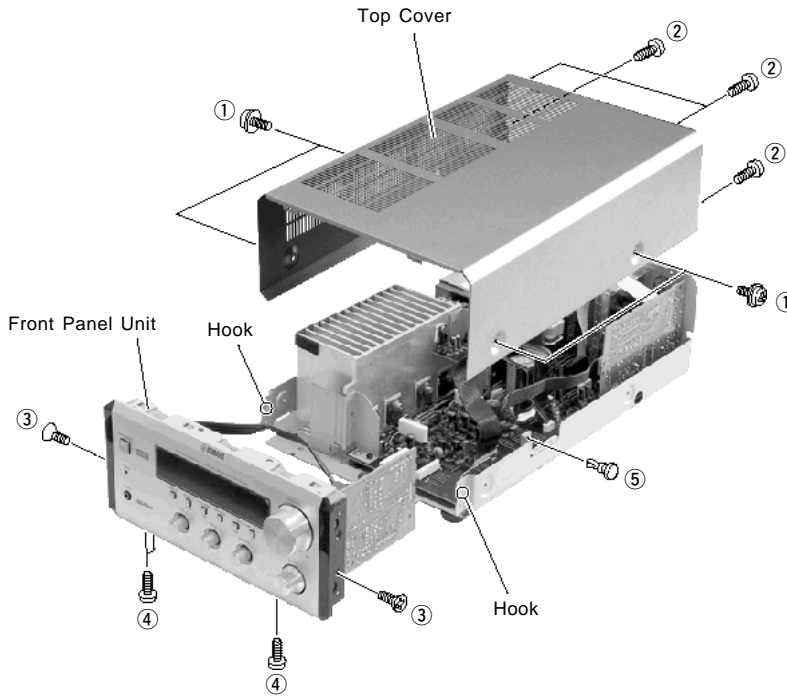

Fig. 1
- ① POWER TRANSFORMER
- ② MAIN (6) P.C.B.
- ③ AM/FM TUNER
- ④ MAIN (2) P.C.B.
- ⑤ OPERATION P.C.B.
- ⑥ MAIN (4) P.C.B.
- ⑦ MAIN (1) P.C.B.
- ⑧ MAIN (3) P.C.B.
- a. Remove 4 screws ( ① ) and 4 screws ( ② ) in Fig. 1.
- b. Remove 2 screws ( ③ ), 3 screws ( ④ ) and 1 plastic rivet ( ⑤ ) in Fig. 1.